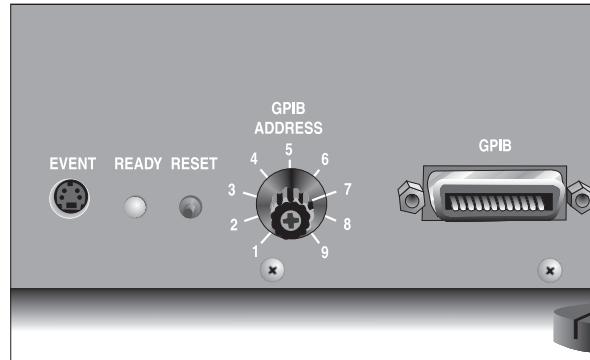

Figure 2.5
5. Select a unique address from 1 to 9 (one that is not used by any other instruments connected to your controller). Then use the address selector dial on the DSC 2920 CE connector panel to set the desired address. Figure 2.5 shows an instrument address of 7.